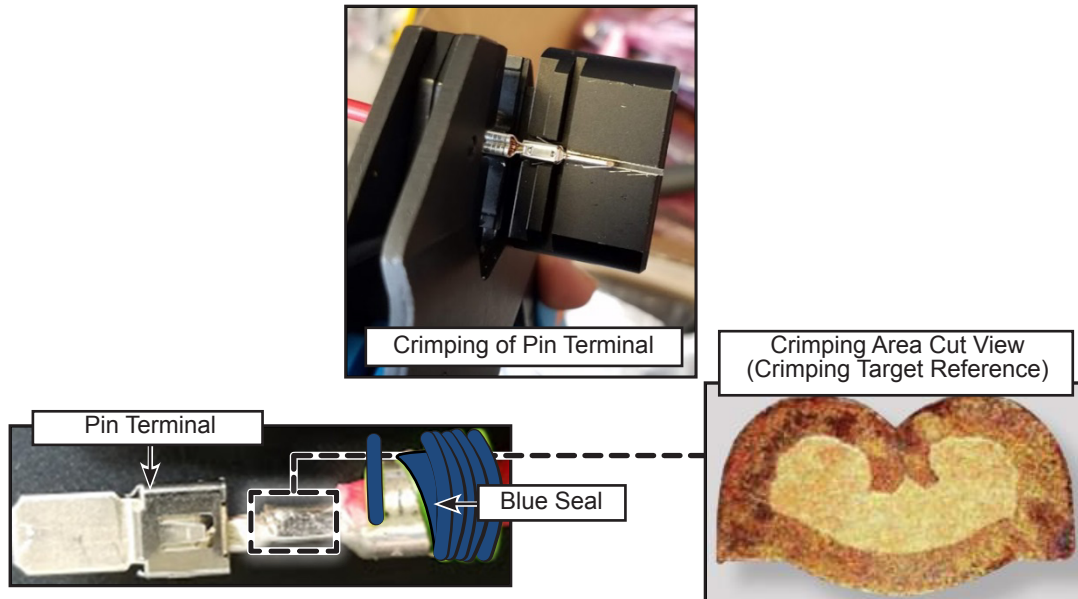

Figure 14 - TE Connectivity HDSCS Pin Terminal and Blue Seal
- 1.23. Using the HDSCS crimping tool (see figure 7), crimp the pin terminal PN N97874-02 with the blue seal PN N77237 on both RED and BLACK power wires (see figure 14). Refer to the figure below showing a typical HDSCS terminal crimp example and to Annex 1 for more information about the HDSCS connectors terminal crimping quality guidelines.